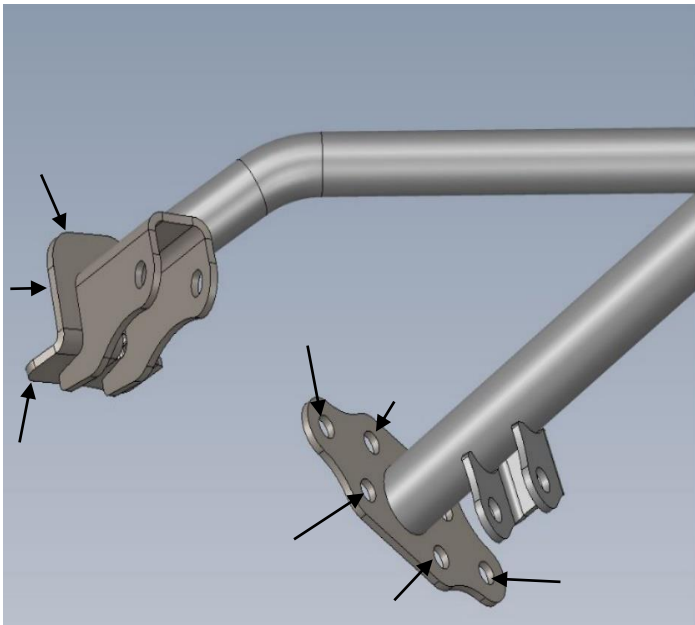

Figure 14
6. Using a welder capable of 1/4" penetration, plug weld all holes in the front flanges and the flange edges of the rear flanges. **(Figure 14 & 15)** Alternate sides during welding to prevent overheating/warping of the flanges or frame rails. **Using compressed air to cool each weld and eliminate the chance of inner frame rail fires is highly recommended.**